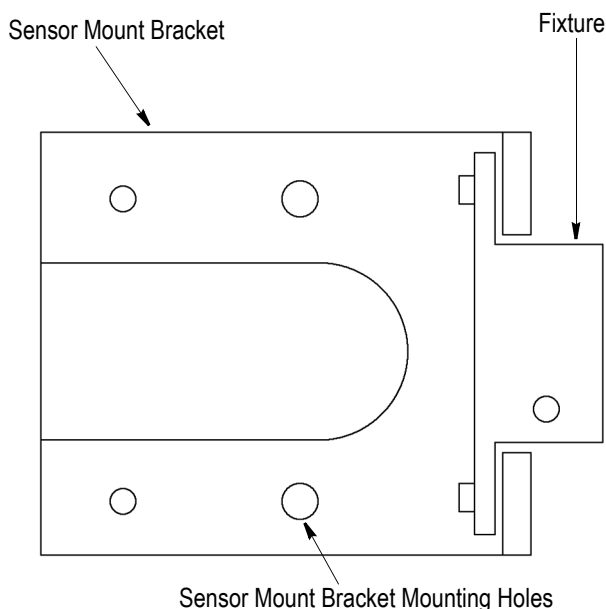

Figure 4
2. Remove the position sensor from the sensor bracket. Install the fixture onto the sensor bracket by using the two screws from the sensor. See Figure 4.